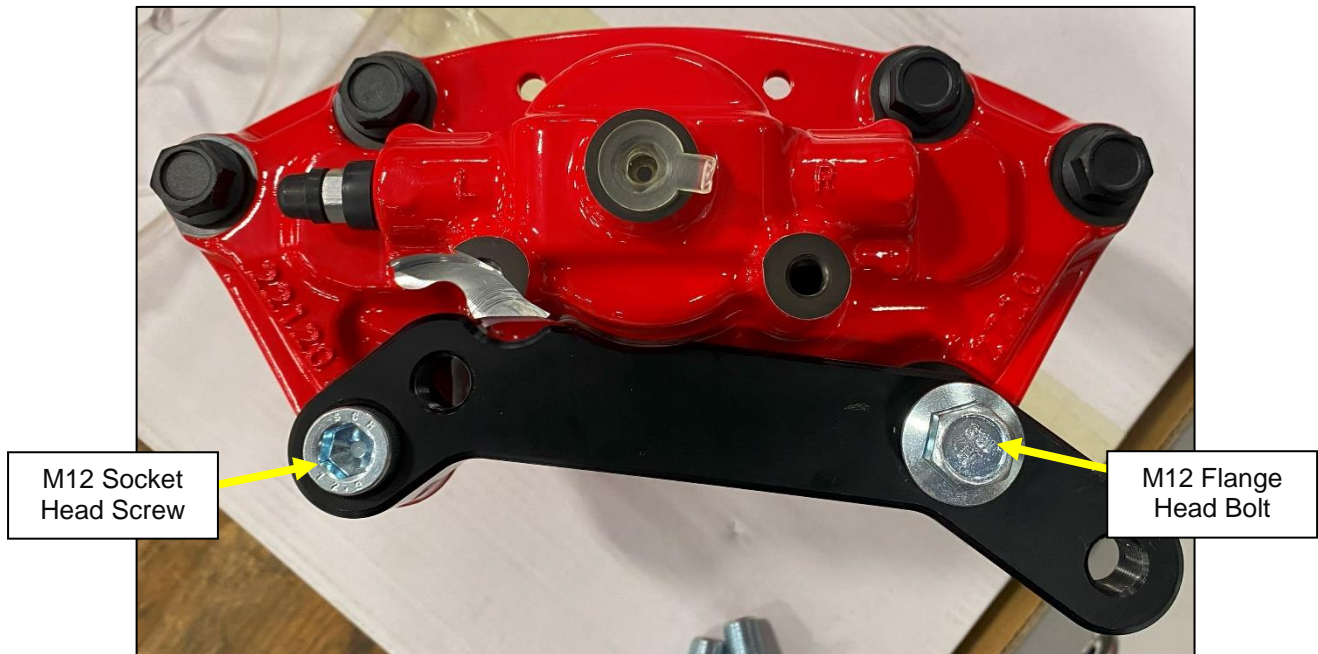

Figure 7
10. Position the Right Side Bracket over the Right Caliper and secure it with (1) one M12 x 1.25 Flange Head Bolt, 35mm, and (1) one M12 x 1.25 Socket Head Screw, 20mm. Torque these bolts to 63 ft-lbs. These will not be easily accessible once they are mounted on the car. *Figure 7*.
NOTE: The Caliper in *Figure 7* is for the Driver Side (Left) of the Truck.